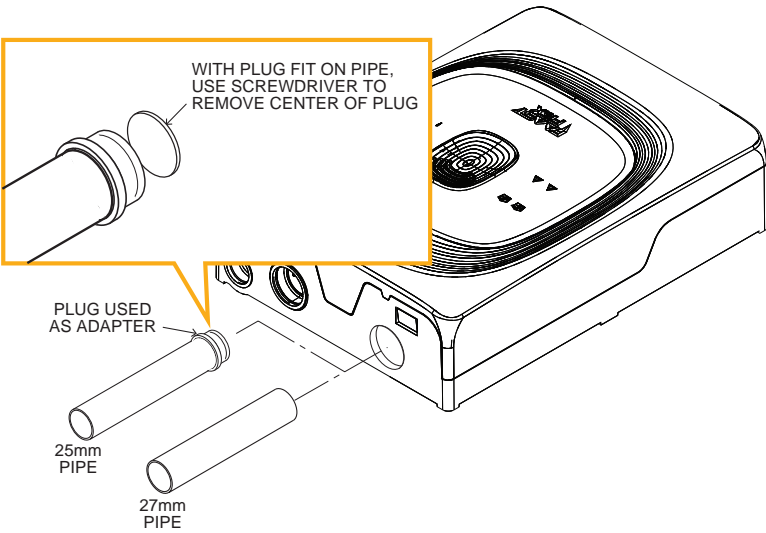
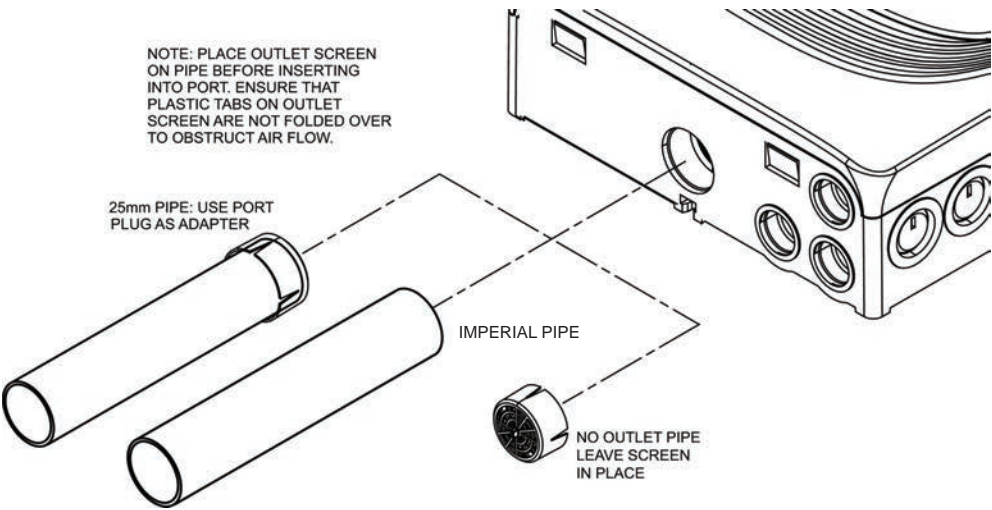

Figure 3-8: Inlet Piping Connections
Figure 3-9: Outlet Piping Connections
5. The FAAST FLEX is designed to accommodate either 27mm or 25mm pipe. If 25mm piping is used, an adapter is required. On the inlets, the pipe plugs can be used as an adapter by removing the center of the plug to open it up (see Figure 3-8). On outlet piping, the screen can be used as an adapter with 25mm piping (see Figure 3-9).